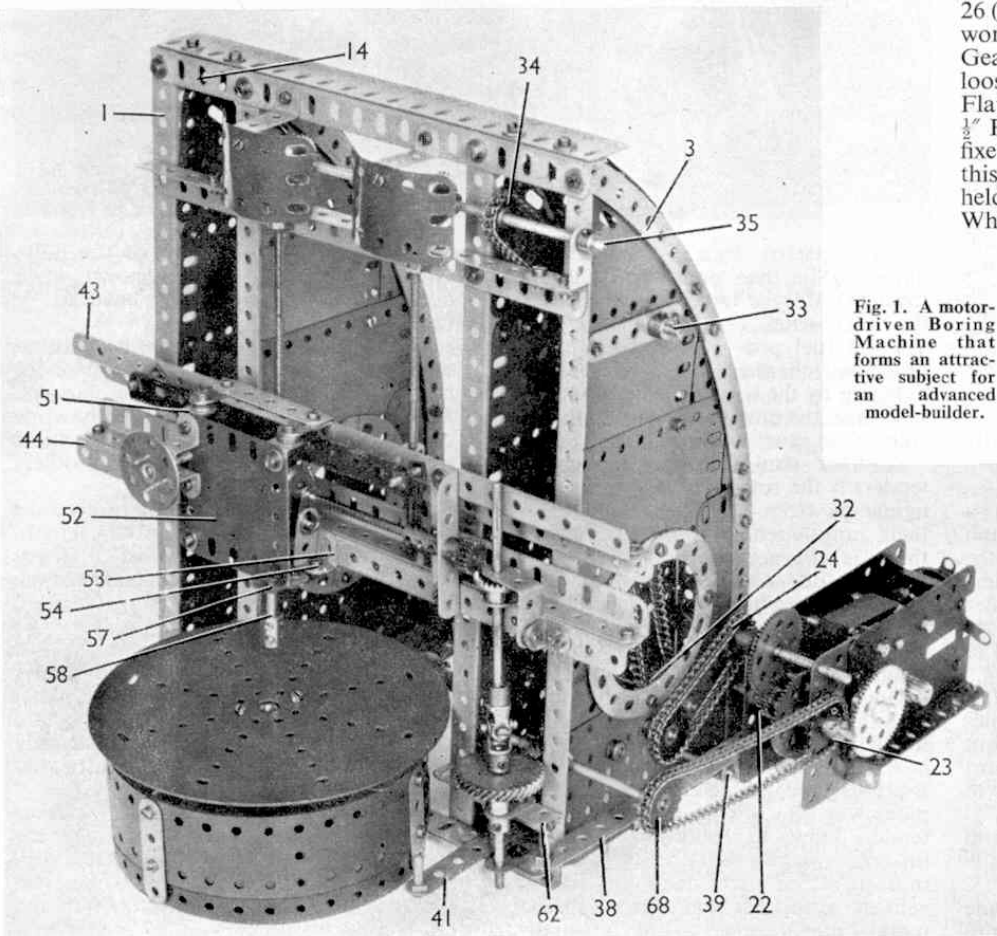

Fig. 1. A motor-driven Boring Machine that forms an attractive subject for an advanced model-builder.
**T**HE Boring Machine that forms the subject of the fine model seen in Fig. 1 on this page is one of the most useful among the large variety of machine tools at the disposal of the modern engineer. In general design it is based upon a real machine and every attempt has been made to reproduce not only the movements of the prototype but also its general appearance and proportions.
The Motor side-plates are extended with  $3"$   $\times$   $1\frac{1}{2}"$  Flat Plates. A  $\frac{7}{8}"$  Pinion on its shaft drives a 60-tooth Gear Wheel on a  $2\frac{1}{2}"$  Rod, on the other end of which is a  $\frac{1}{2}"$  Pinion. This Pinion engages with a 57-tooth Gear Wheel on a  $2\frac{1}{2}"$  Rod that carries a  $\frac{1}{2}"$  Pinion 22 and a 1" Sprocket Wheel 23 (Fig. 1). A  $\frac{3}{4}"$  Sprocket Wheel 24 is fixed on a  $2\frac{1}{2}"$  Rod and a 57-tooth Gear Wheel also on this Rod is arranged to engage with the Pinion 22. On the  $4\frac{1}{2}"$  Rod 25 is secured a 1" Sprocket Wheel, a  $\frac{1}{2}"$  Pinion 26 (this is not seen as it is inside the framework), another  $\frac{1}{2}"$  Pinion 27, and a 1" Gear Wheel 28. A  $\frac{1}{2}"$  Pinion 29 (Fig. 2) is loosely mounted on a  $\frac{3}{4}"$  Bolt locked to the Flat Plate of the column by two nuts. A  $\frac{1}{2}"$  Pinion 31 and a 1" Gear Wheel 30 are fixed in each end of a Socket Coupling and this is placed on a 4" Rod with Keyway 32 held in position by Collars. A 1" Sprocket Wheel is secured on the Rod inside the column, and is connected by Chain to a 1" Sprocket Wheel mounted on a  $2\frac{1}{2}"$  Rod 33 (Fig. 1). A  $\frac{3}{4}"$  Sprocket Wheel on this Rod drives a  $\frac{3}{4}"$  Sprocket Wheel 34 on an 8" Rod 35, which has two  $\frac{7}{8}"$  Bevel Wheels 36 (see Fig. 3) fastened to it. A  $9\frac{1}{2}"$  Angle Girder 37 fitted with two  $1"$   $\times$   $1"$  Angle Brackets, supports the Rod 35. A  $5\frac{1}{2}"$  Strip 38 fitted with a Threaded Pin is lock-nutted to a  $\frac{1}{2}"$   $\times$   $\frac{1}{2}"$  Reversed Angle Bracket attached to the  $9\frac{1}{2}"$  Angle Girder 11. The inner end of  $5\frac{1}{2}"$  Strip 38 is attached by a Bolt to a Collar on the 4" Rod 39. Two  $1\frac{1}{2}"$  Rods fastened in a Coupling 40 secured on Rod 39 engage with the groove of the Socket Coupling to form the drive reverse mechanism.
A  $4\frac{1}{2}"$  Strip 41 (Fig. 1) fitted with a Threaded Pin and an End Bearing is lock-nutted to the Angle Girder 12. The lugs of the End Bearing engage with the 57-tooth Gear Wheel 42, which is placed on a 4" Rod with Keyway and is free to move to engage with the  $\frac{1}{2}"$  Pinion 26 inside the column.
Two 1 1/2" Angle Girders 43 are bolted together to form a reversed angle girder (see Fig. 1), and a similar pair of Girders 44 are joined to it by 1 1/2" Flat Girders 45 (Fig. 2), spaced away from the Angle Girders by two Washers on each of the 3/8" holding Bolts. A 2 1/2" Angle Girder 46 (Fig. 3) is fastened to the front. Two Threaded Cranks 47 (Fig. 2) are secured to the Angle Girder 43. Two 7/8" Bevel Wheels 49 are fastened to Screwed Rod Adaptors fixed in the ends of 6" Screwed Rods 48, and locked in place by nuts. These Screwed Rods are threaded through the Threaded Cranks 47. Two 2 1/2" x 1 1/2" Flexible Plates are curved to form shields and are attached to the Angle Girder by 1" x 1/2" Reversed Angle Brackets.
Two 2 1/2" Angle Girders 50 are placed together with the elongated holes of one facing the round holes of the other. A Fishplate is placed between them at each end and these are attached to the lugs of a 2 1/2" x 1/2" Double Angle Strip 51 bolted on each side of a 2 1/2" x 2 1/2" Flexible Plate 52. Three Washers are used to space the Fishplate from the lugs. A similar pair of Angle Girders 53 (Fig. 1) is secured at the bottom of the Plate 52 by Fishplates. A 1" x 1/2" Angle Bracket 54 (Fig. 1) extended by a Fishplate forms the bearing for a 4" Rod with Keyway 55, which is secured by a Coupling to a 1" Rod carrying a 1/2" Pinion 56. A Double Bent Strip 57
The Sprocket Wheel 23 (Fig. 1) drives a 1" Sprocket Wheel 68 on a 4" Rod which is fitted with a 3/8" Helical Gear Wheel that engages the Helical Gear 64.